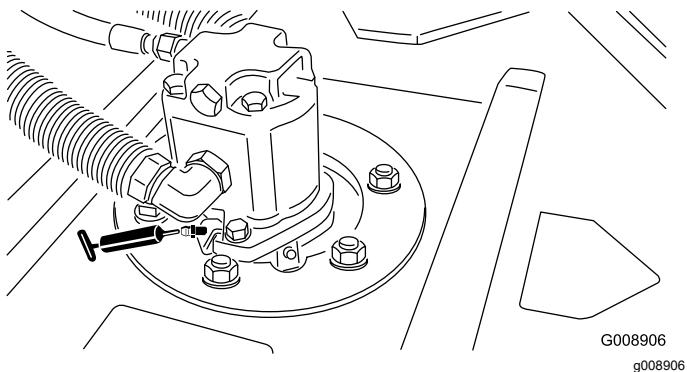

**Figure 48**
- Rear-roller bearings (2 per cutting unit)—Figure 48